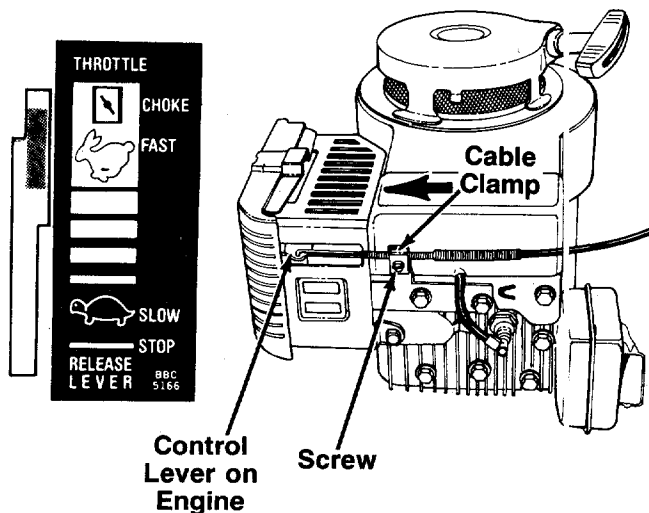

FIGURE 8.
1. Push the throttle control lever on the handle all the way forward to CHOKE position, then back off approximately 1/8 inch. See figure 8.
2. The throttle control cable is attached to the upper handle. Route the throttle control cable under the lower handle and over the fuel tank mounting bracket. Hook the "Z" end of the throttle control cable into the hole in the control lever on the engine. See figure 8.
3. Using a 5/16" wrench or nutdriver, remove the screw on the cable clamp shown in figure 8. Slip the control casing under the clamp. Replace the screw (casing should be above the screw), but do not tighten screw (cable must still move freely beneath the clamp).
4. Slide the control lever on the engine as far toward the outside of the engine as it will go as shown in figure 8. Tighten the screw to secure the throttle control cable in this position.